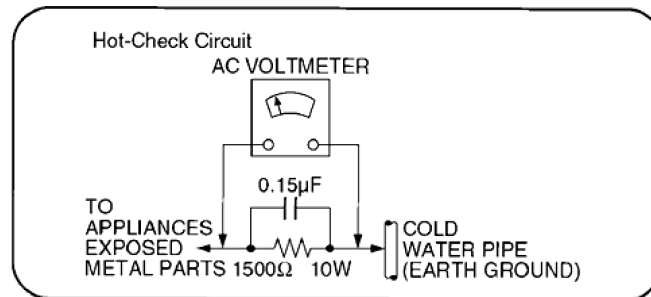

Fig. 1
1.1.2. Leakage Current Hot Check (See Figure 1)
2. Connect a $1.5\text{k}\Omega$, 10 watts resistor, in parallel with a $0.15\mu\text{F}$ capacitor, between each exposed metallic part on the set and a good earth ground such as a water pipe, as shown in Figure 1.